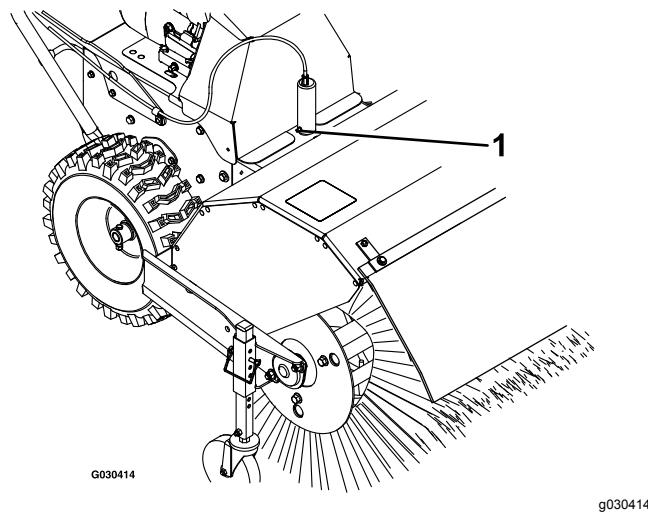

Figure 20
1. Lubricate the broom-angle-lock pin fitting with No. 2 lithium grease (Figure 20).